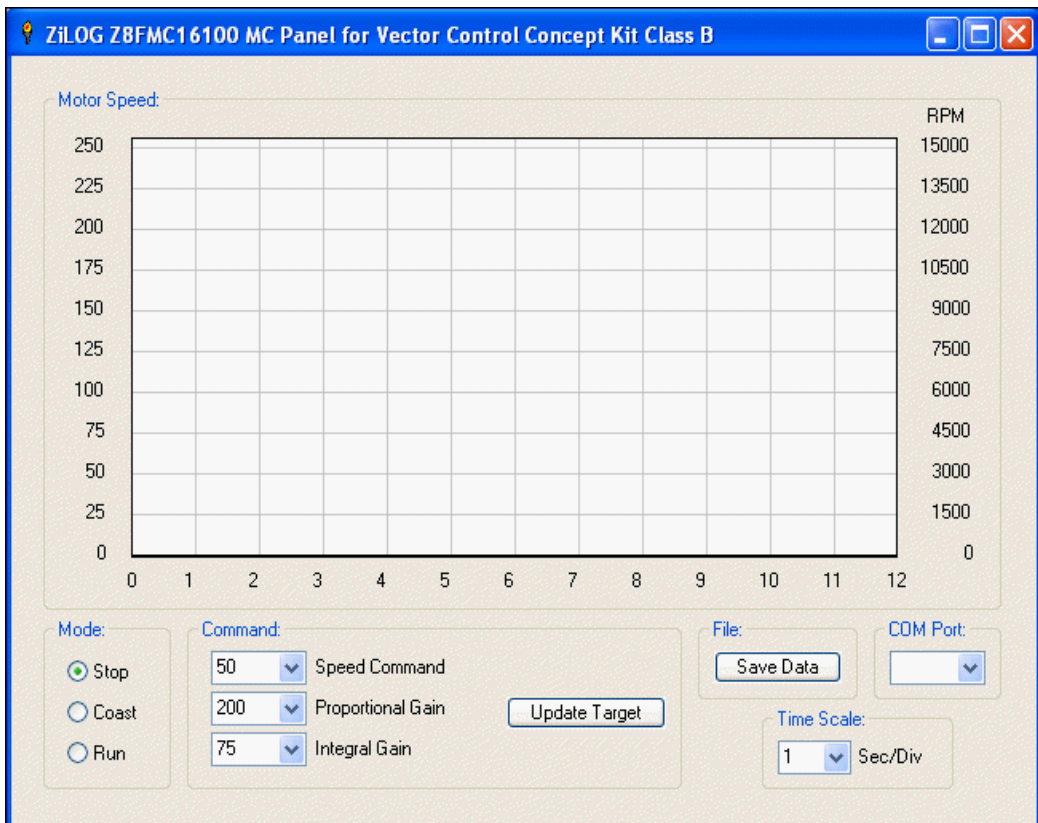

Figure 3. Control Panel
See Figure 3.
12. In the Control Panel (Figure 3 on page 7), click **Update Target**.
10. In the Control Panel (Figure 3 on page 7), click **Update Target**.